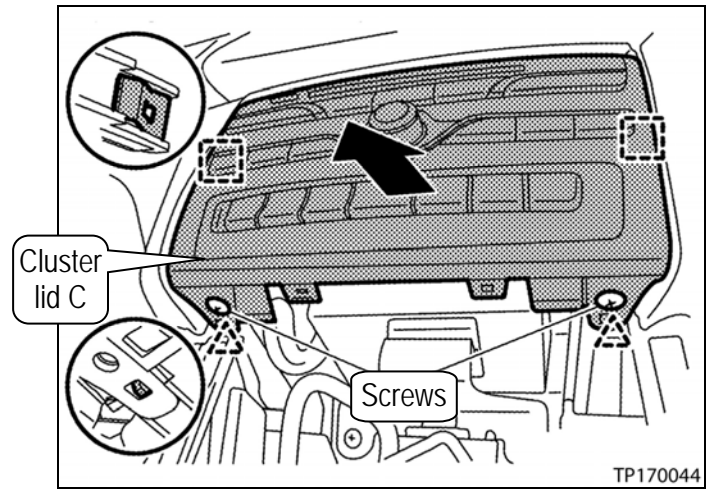

Figure 13
3. Remove instrument finisher E, and then remove the hidden screws (see Figure 12, and next page, Figure 13).